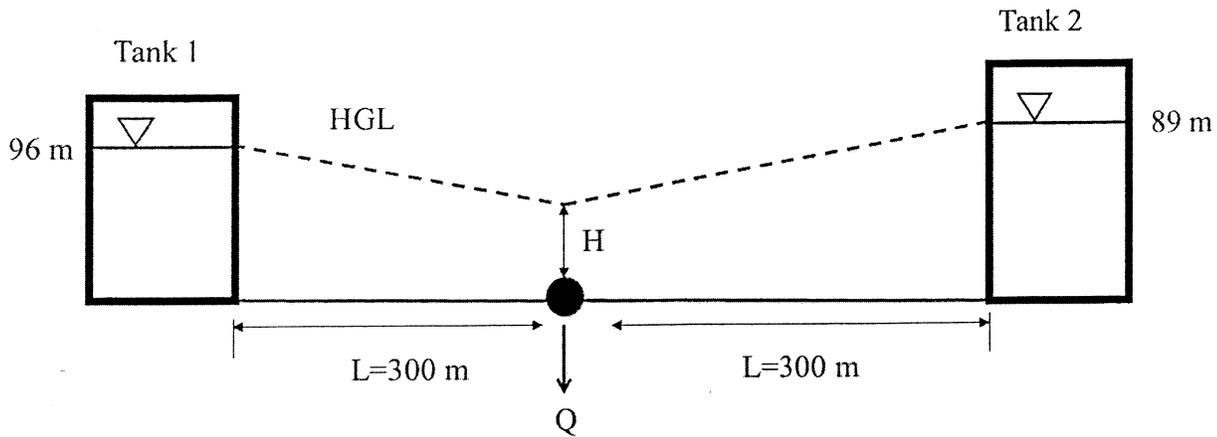

Figure 4. Water supply system.
4. Two elevated tanks supply water to a demand node with a valve at its outlet (Figure 4). The elevated tanks are cylindrical and have diameters of 5 m. The initial water level in Tank 1 is 96 m and the initial water level in Tank 2 is 89 m. The valve is half open and has a discharge coefficient of $0.10 \text{ m}^{5/2}/\text{s}$. The initial steady-state flow through the valve is 300 L/s. The valve discharges to the atmosphere. Both pipes have a Hazen-Williams 'C' factor of 110, an internal diameter of 250 mm, and a length of 300 m. Assuming quasi-steady conditions in the system, determine the pressure head at the demand node and the flow in the pipes in the first three time steps of the simulation. Use a time step of 10 seconds to carry out the quasi-steady state simulation.